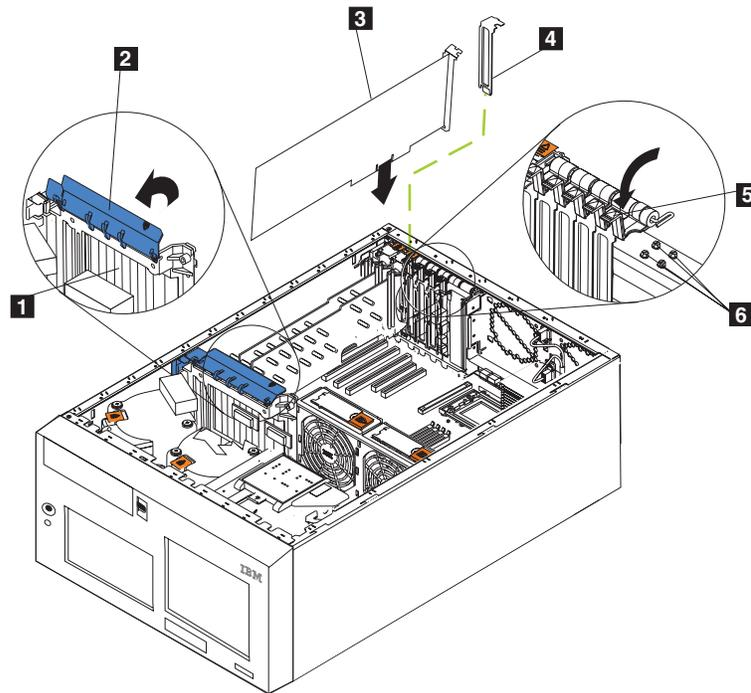

Figure 60. Installing a Remote Supervisor Adapter
7. Slide the expansion-slot cover from PCI slot 1 (see Figure 60 on page 125). Store it in a safe place.
- c. Secure the adapter with a screw: insert one of the backup expansion-slot screws (see Figure 60 for the location of the screws) through the top of the adapter bracket into the screw hole to secure the adapter.